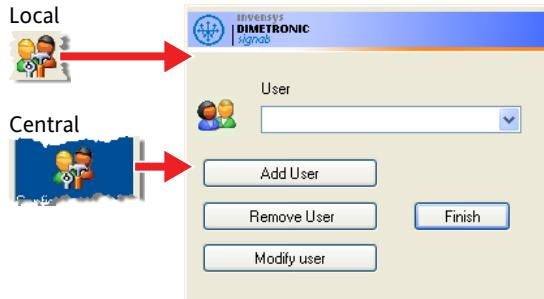

Figure 4.40 Configure User dialog box
- The Configure User dialog box opens (figure 4.40).
The Configure User dialog box opens (figure 4.40).